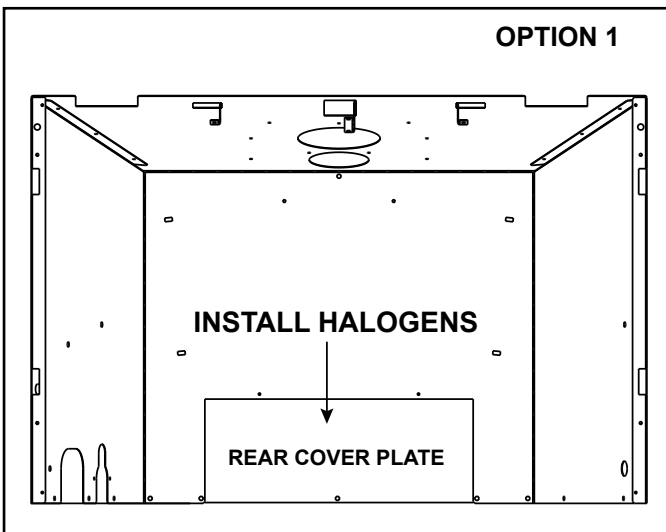

Figure 6.5 Cover Plate Removal (Option 1)
- Remove the five screws on the rear cover plate. See Figure 6.5.